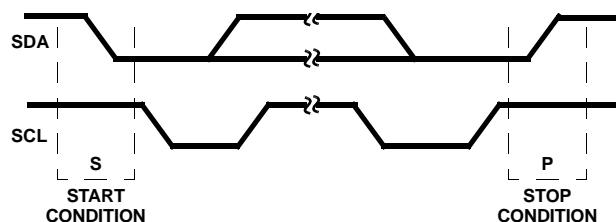

FIGURE 17. START AND STOP WAVEFORMS
As shown in Figure 17, a START (S) condition is a HIGH to LOW transition of the SDA line while SCL is HIGH. A STOP condition is a LOW to HIGH transition on the SDA line while SCL is HIGH. A STOP condition must be sent before each START condition.